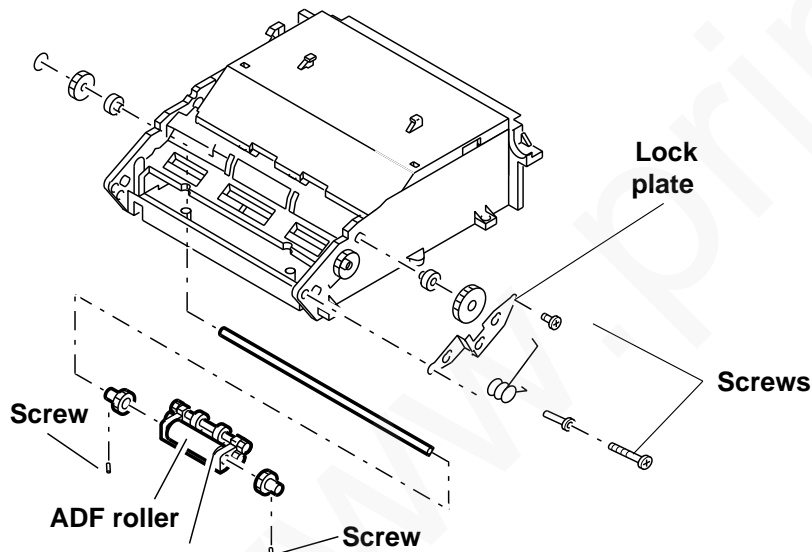

Figure 1. ADF roller
13. Remove the two screws from both gears on ADF roller shaft (Figure 1) and slide ADF roller shaft out of the assembly.